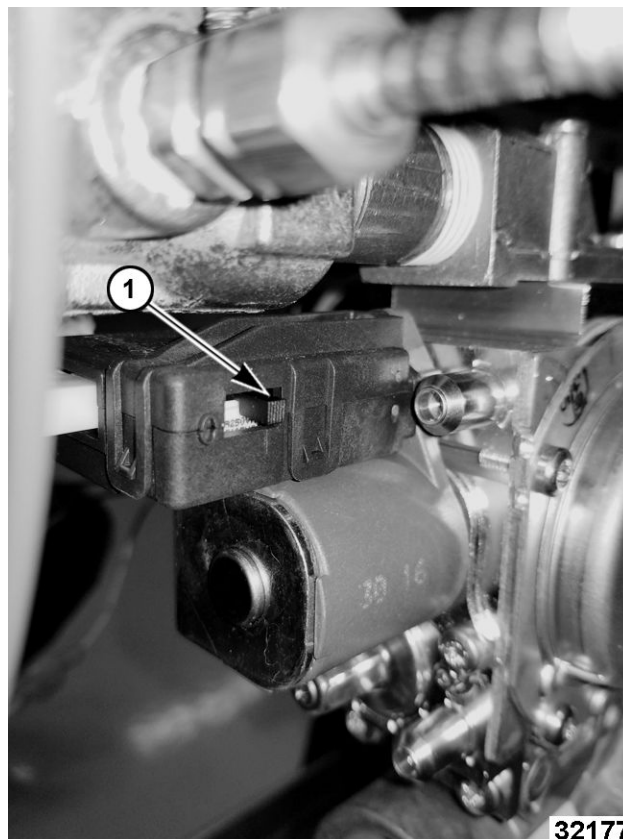

Fig. 48
- 3. Check solenoid on/off switch to verify it is in the ON (Fig. 48) position.